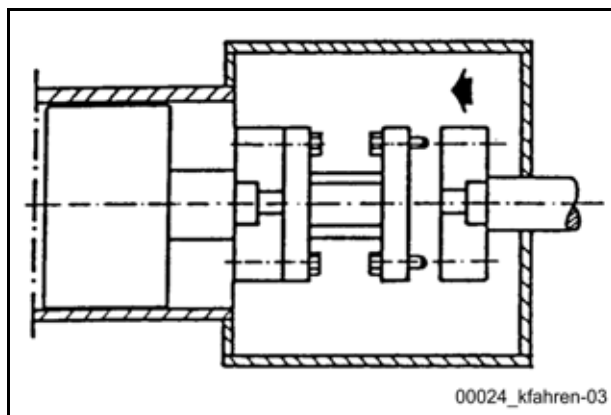

Fig. 332 Insert distance piece
- Insert the distance piece and screw it onto the pumping piston (**Fig. 332**).